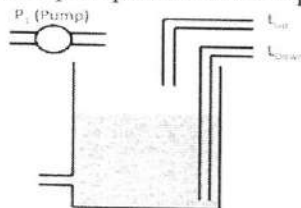

Figure 6: Water Tank
- b. For an automatic water tank system as shown in Figure 6, there are two level sensors, L_{up} and L_{down} and a pump. For this automatic water tank system, pump is 'on' if water is below the lower level and pump is 'off' if water is above the higher level. When water is between top and bottom level, the pump should be on/off depending upon the previous state of the pump. Which means if the previous state of pump is on then it should be turned on and if the previous state is off then the pump should be kept off. [6]